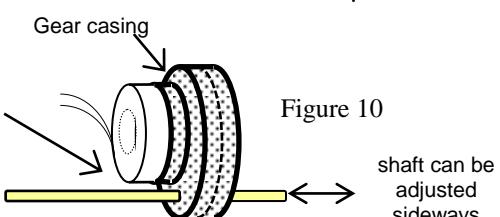

Figure 10
5.6 Thread the axle shaft through the hole in the casing part B. Snap casing B together with part A. (Figs 10/11). Use pressure when snapping A & B together. You may need assistance.